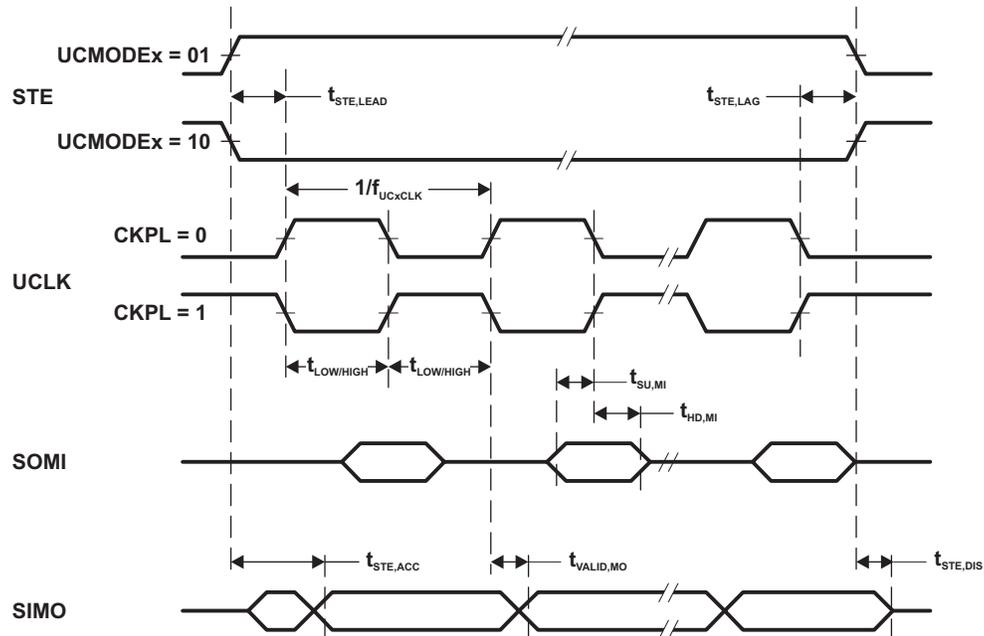
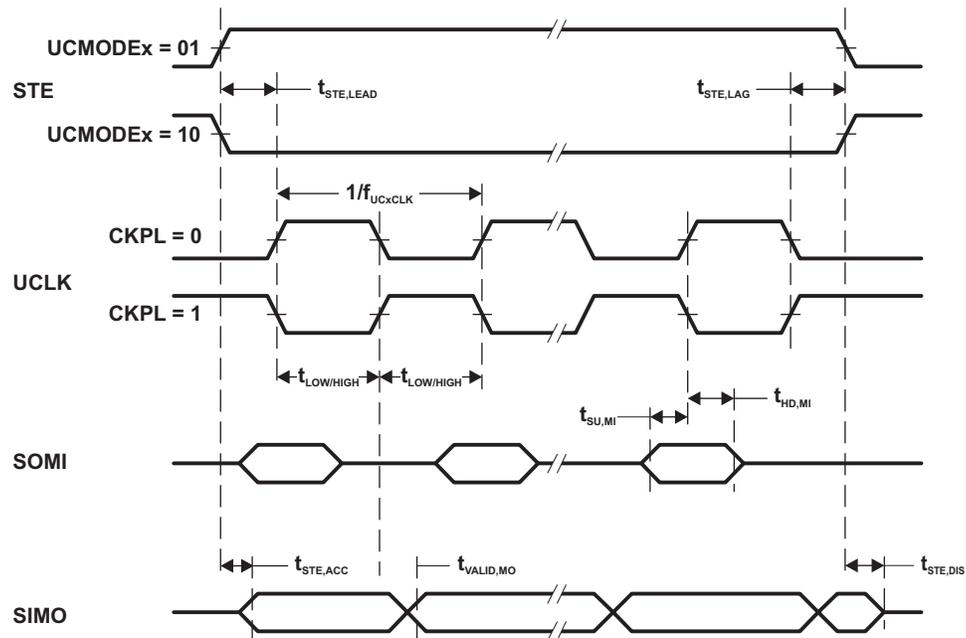

Figure 6. SPI Master Mode, CKPH = 0
Figure 7. SPI Master Mode, CKPH = 1
- (2) Specifies the time to drive the next valid data to the SIMO output after the output changing UCLK clock edge. See the timing diagrams in Figure 6 and Figure 7.
- (3) Specifies how long data on the SIMO output is valid after the output changing UCLK clock edge. Negative values indicate that the data on the SIMO output can become invalid before the output changing clock edge observed on UCLK. See the timing diagrams in Figure 6 and Figure 7.